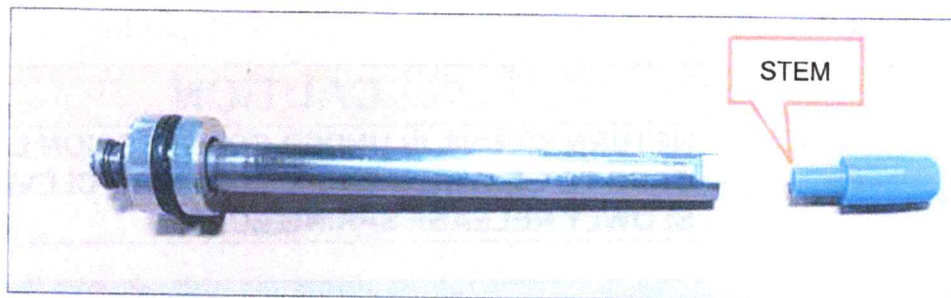

FIGURE 4 – PISTON ROD, INSTALLATION TOOL AND CUTAWAY END GLAND
- g) Arrange PISTON ROD and INSTALLATION TOOL as depicted in Figure 4 below.